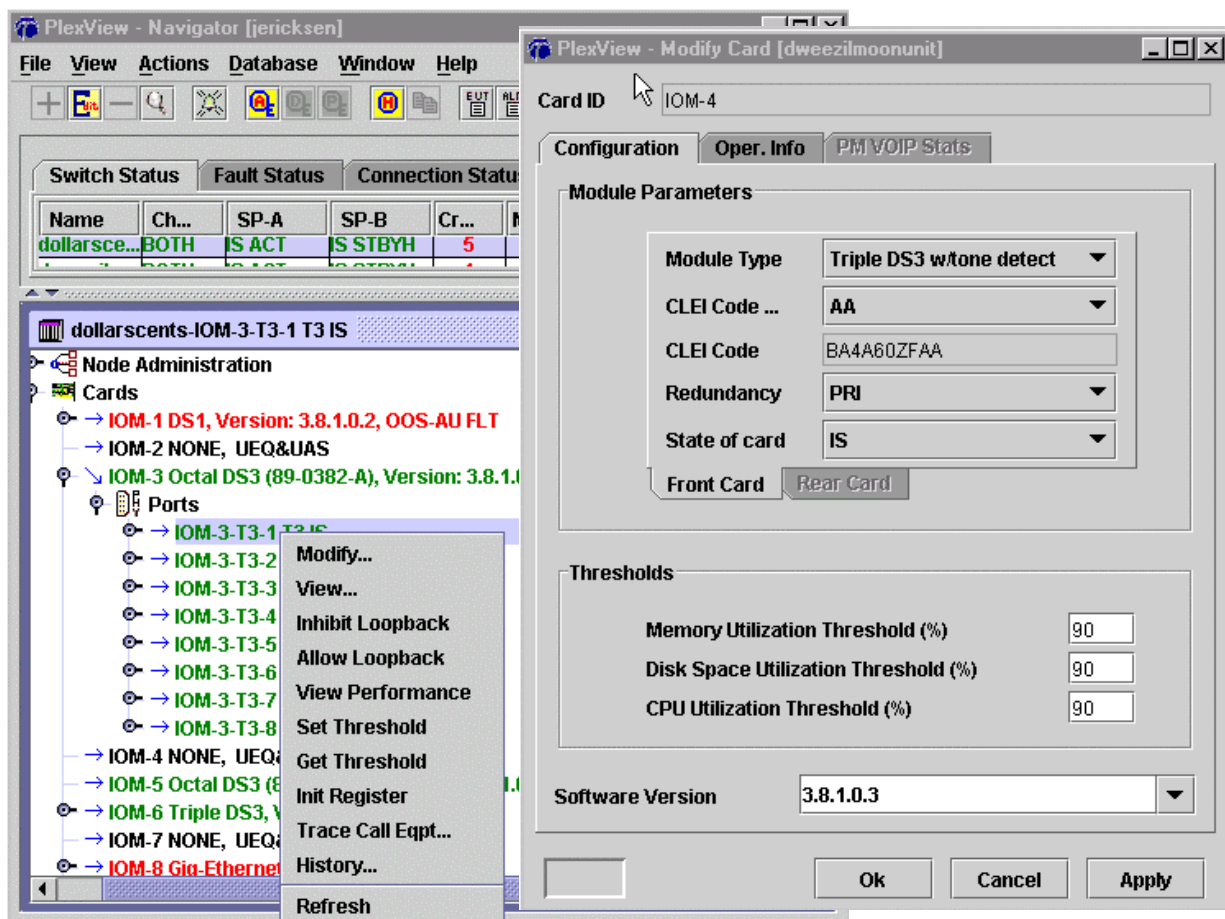

Figure 4. Retrieving Module Configuration
55. Double-click the switch to select it for the main panel and then double-click *Cards*. Right-click the desired IOM and then select *View* and then *Configuration*. Note the CLEI and software version. Refer to Figure 4.
58. Double-click the switch to select it for the main panel and then double-click *Cards*. Right-click the desired IOM and then select *View* and then *Configuration*. Make the necessary changes and click *Ok* or *Apply*. Refer to Figure 4.
If using **EMS**, then refer to Step 55 and Figure 4.